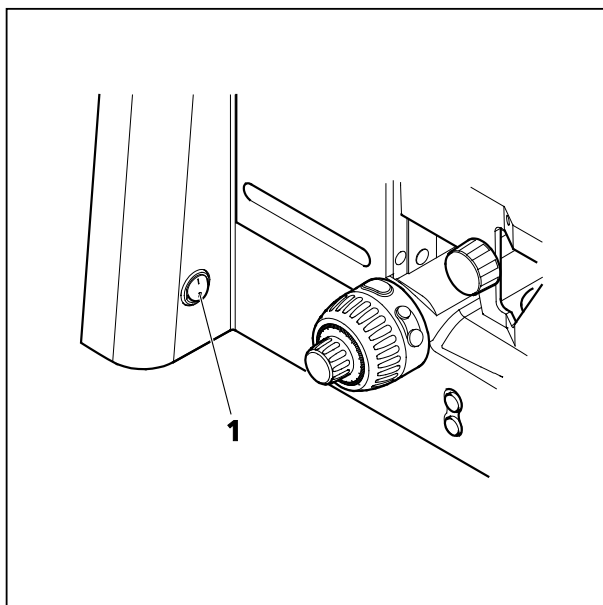
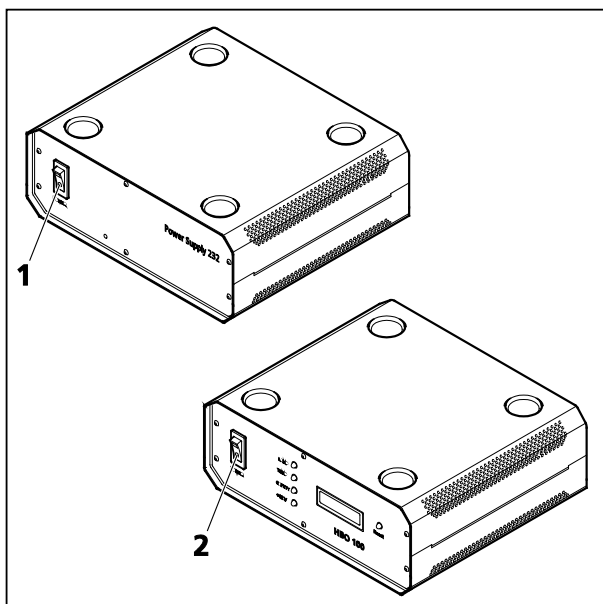

Fig. 84 Switching the manual microscope on/off
Fig. 85 Switching motorized microscope and HBO 100 illuminator on/off
- Switch on the manual version of the microscope at the on/off (Fig. 84/1) switch located on the left of the stand. With the motorized microscope, first switch on the power supply VP232-2 at its on / off switch (Fig. 85/1), and then operate the on / off switch on the stand (Position **I**).
- After use, switch the manual and the motorized microscope off by means of the on/off switch (Fig. 84/1) on the left side of the stand. Then, on the motorized version, switch off the power supply VP232-2 at the on / off switch (Fig. 85/1) (Position **O**).
- The HBO 100 illuminator, which is used in place of the HAL 100 illuminator for fluorescence contrast examinations, is switched on and off using the on/off switch (Fig. 85/2) of the HBO 100 transformer.